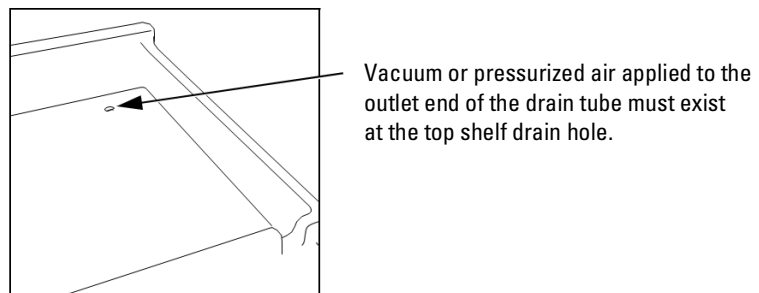

Figure 2-6 Top shelf drain
2. Test the top shelf drain by connecting a vacuum or air supply source to the outlet end of the drain tube. Then, verify the presence of such vacuum or air supply source on the drain (Figure 2-6).